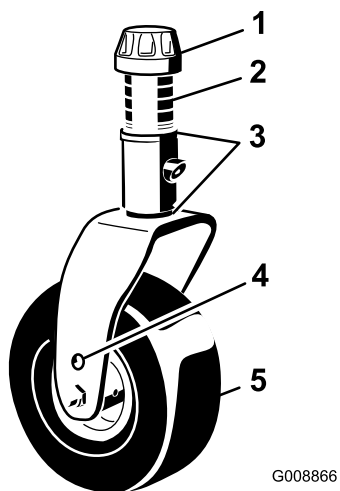
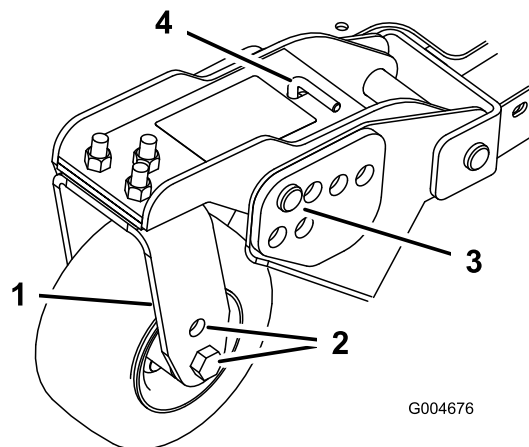

Figure 26
Figure 28
1. Position the caster-wheel axles in the same holes in all of the caster forks (Figure 26 and Figure 28).
2. Remove the tensioning cap from the spindle shaft and slide the spindle out of the caster arm (Figure 26).
5. Remove the hairpin cotter and clevis pins from the caster-pivot arms (Figure 28).
6. Rotate the tension rod to raise or lower the pivot arm until the holes are aligned with the selected height-of-cut bracket holes in the mower-deck frame (Figure 28 and Figure 29).